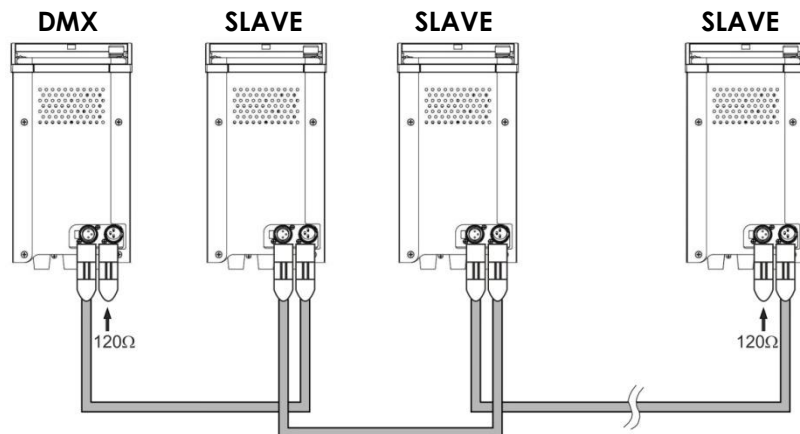

Fig. 4
1. Link the units as shown in (Fig. 4), connect a DMX signal cable from the first unit's DMX "out" socket to the second unit's "in" socket. Repeat this process to link the second, third, and fourth units. You can use the same functions on the master device as described on page 16/17 (Built-in Programs). This means on the master device you can set your desired operation Mode and all slave devices will react the same as the master device.